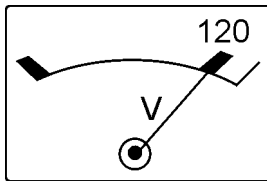

Figure 15. AC Voltmeter (120 VAC)
- Refer to the AC voltmeter (Figure 15) on the control box. The voltage indicated on the voltmeter should be 120 VAC with no load applied.